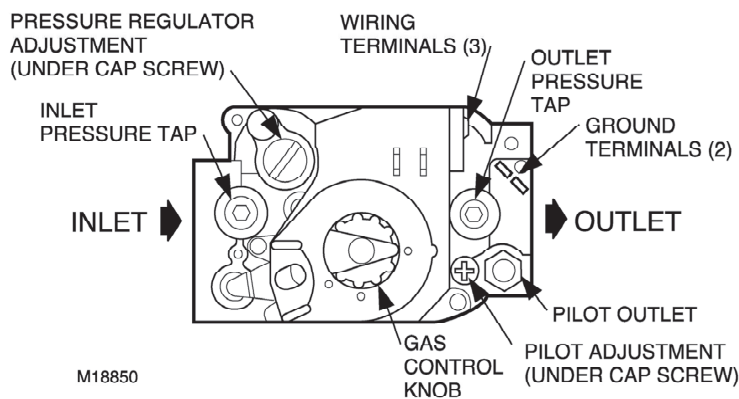

Figure 1. Top view of gas control
The pilot adjustment is part of the combination control valve located just behind the lower front access door. It is located on the centre left side of the control just below the large slotted screw head. (See Figure 1). Remove the large slotted screw; below this is a second slotted screw used for adjustment of the pilot burner flame.
1. Remove the pilot adjustment cover screw. Refer to Figure 1.
The gas pressure regulator is an integral part of the combination gas control located just behind the lower front access door. The pressure regulator adjustment is on the lower right side of the gas control (see Figure 1). The large slotted cap must be removed to access the adjustment screw.